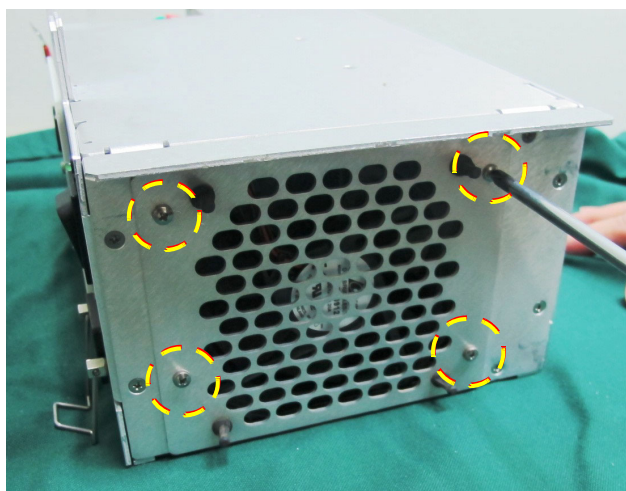

Figure 8-203 AC Box Fan Securing Screws
- 2.) Remove the 4 Fan securing screws from the side of the AC Box - Figure 8-203 below.
- 4.) Place the Fan in position then fasten with the 4 securing screws (previously removed) - Figure 8-203.